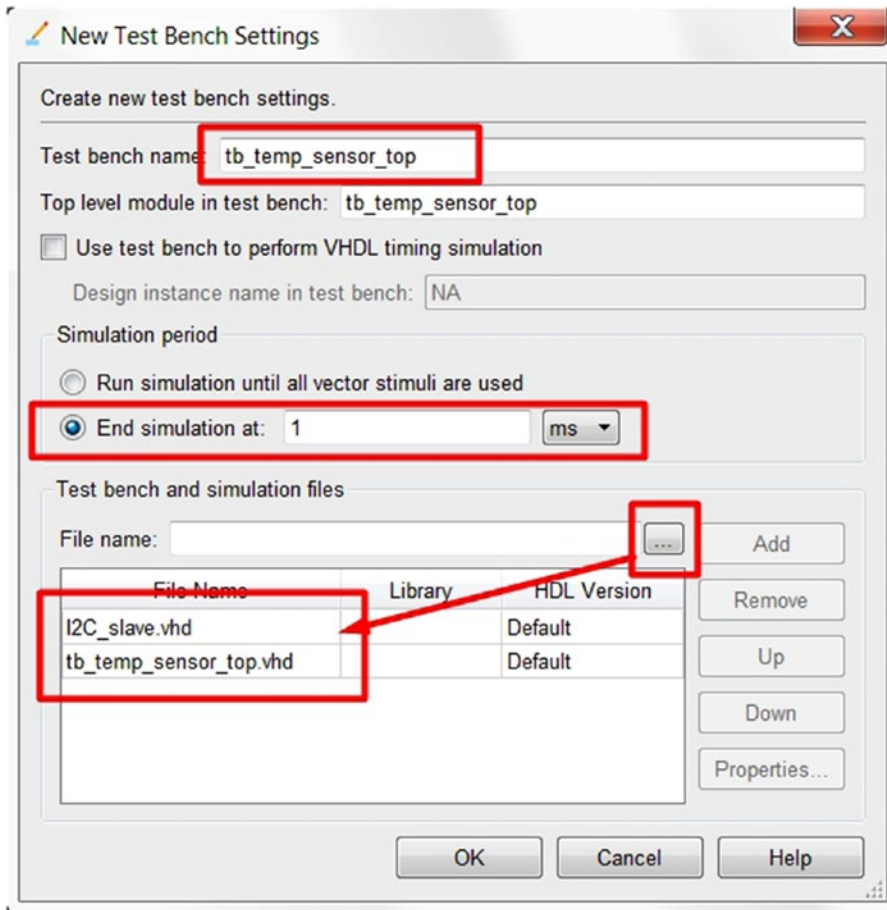

Figure 13-28. New Test Bench Settings
- In the New Test Bench Settings window, please follow Figure 13-28 and click OK and OK again. You will add two .vhd files under Create new test bench settings: I2C_slave.vhd and tb_temp_sensor_top.vhd.